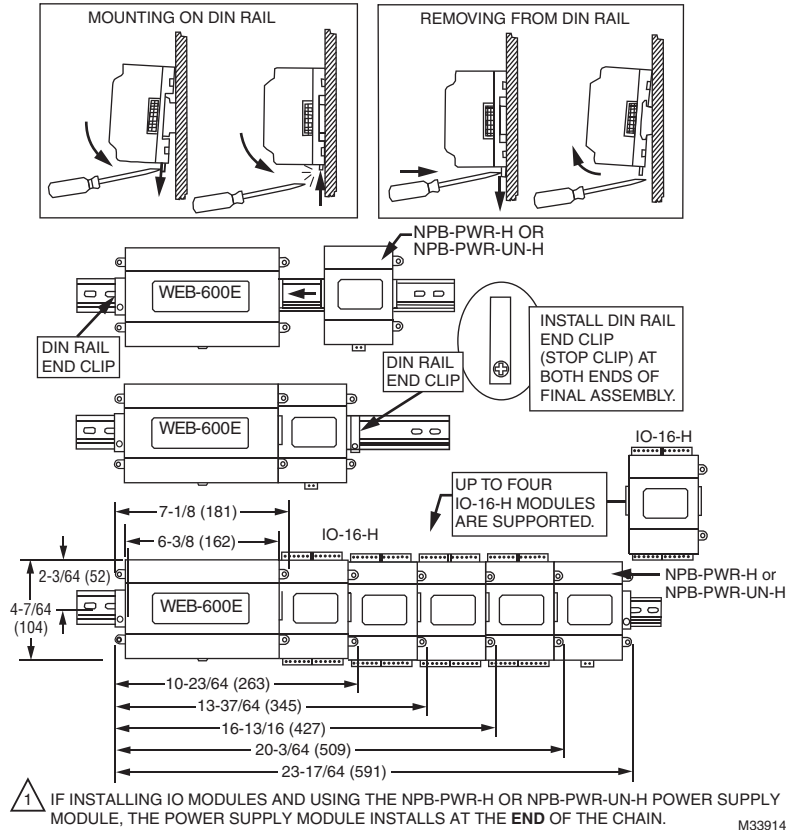

Fig. 1. WEB-600E controller and accessory mounting details.
Figure 1 and the following procedure provides step-by-step DIN rail mounting instructions for the controller.
2. Position the controller on the rail, tilting to hook DIN rail tabs over one edge of the DIN rail (Fig. 1).
7. To keep the final assembly together, secure at both ends with DIN rail *end-clips* provided by the DIN rail vendor. This also prevents the assembly from sliding on the DIN rail. See Fig. 1.